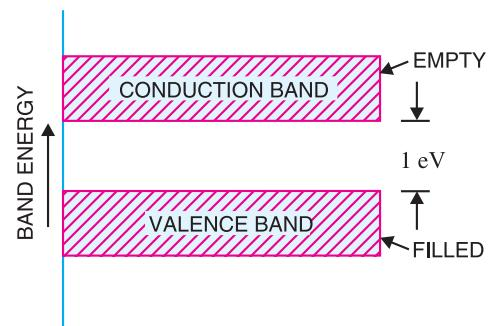

Fig. 4.7
**(iii) Semiconductors.** Semiconductors (*e.g.* germanium, silicon etc.) are those substances whose electrical conductivity lies inbetween conductors and insulators. In terms of energy band, the valence band is almost filled and conduction band is almost empty. Further, the energy gap between valence and conduction bands is very small as shown in Fig. 4.7. Therefore, comparatively smaller electric field (smaller than insulators but much greater than conductors) is required to push the electrons from the valence band to the conduction band. In short, a semiconductor has :